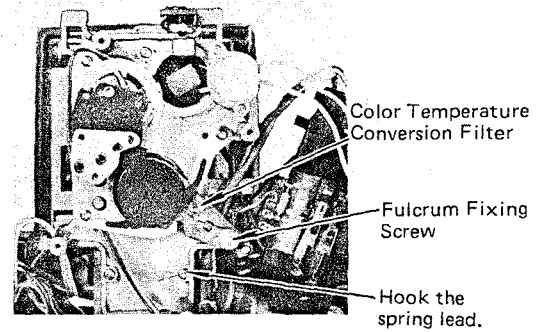

Fig. 8-5-8
- Install the color temperature conversion filter and the spring by fixing the fulcrum portion of the filter with one screw. (Fig.8-5-8)
- Hook the spring lead to its holding pole and attach the spring lead to the pole. (Fig.8-5-8)